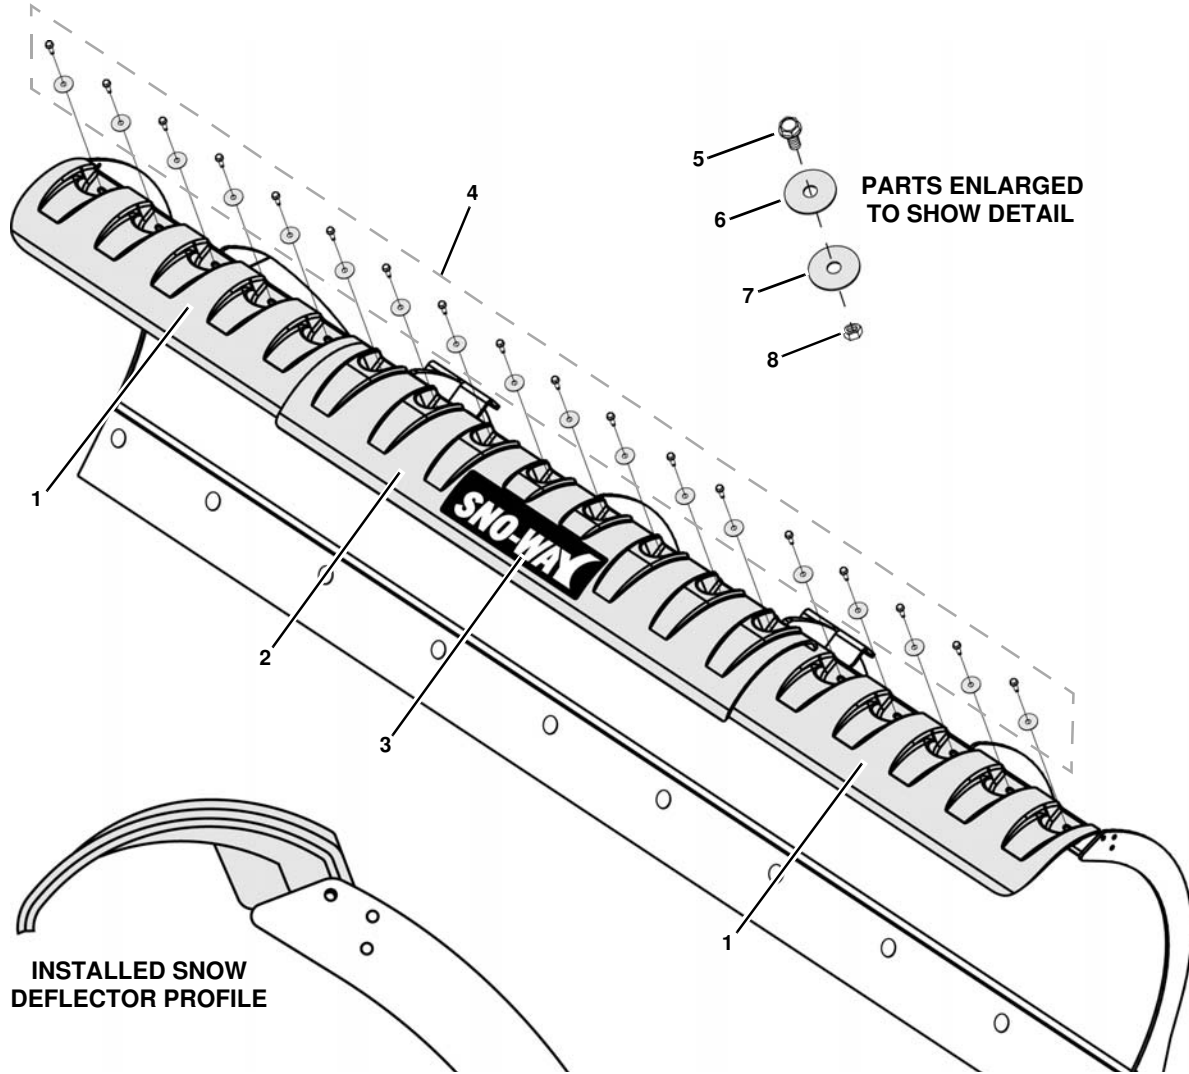

**Figure 1-3**
5. Complete the snow deflector installation by installing the remaining hardware. Starting from the center of the blade and working outward, install (9) screws and (9) 1/8" thick fender washers through the deflectors and blade. Loosely install a 1/16" thick fender washer (p/n 98100485) and locknut (p/n 98100255) on each screw. (See Figure 1-3). Repeat this step on the opposite side.